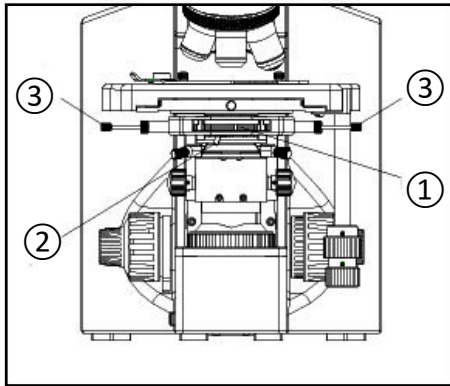

Fig. 28
Turret Phase Contrast Condenser– (Fig. 28)
For brightfield observation, turn the condenser turret (1) to “BF” position. Detents provide “click stops” when the condenser turret (1) has reached a position for observation (a diaphragm or BF position is centered in the optical path (see Fig. 28).
Centering the Phase Annulus – (Fig. 28 & 29)
- (1) Rotate the 10X phase contrast objective into the light path, then rotate the condenser turret (1) to the 10X position.
- (2) Turn the aperture diaphragm lever (2) all the way to the left (most open). **Always keep the aperture diaphragm fully open for phase contrast observation.**
- (3) Place a specimen on the stage and focus.
- (4) Remove one observation eyepiece and place a centering telescope (CT) into the empty eye tube. Ensure that the CT is in the eye tube without a diopter adjustment.
- (5) Loosen the lock screw of the centering telescope, slide the telescope tube up and down until the image of the phase annulus (4) (halo) and phase ring (5) are clear and in focus. Lock the screw to hold the position. (See Fig. 28 & 29)